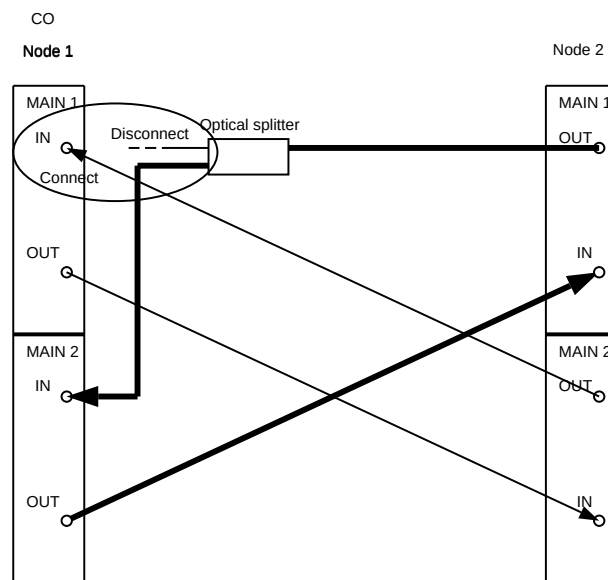

Figure 14. DDM-2000 OC-3 Drop or Add/Drop Network to Ring Upgrade
24. At Node 1, remove optical splitter output from **MAIN 1 IN** and connect optical fiber from Node 2 **MAIN 2(P) OUT** to Node 1 **MAIN 1 IN**. (See Figure 14.)